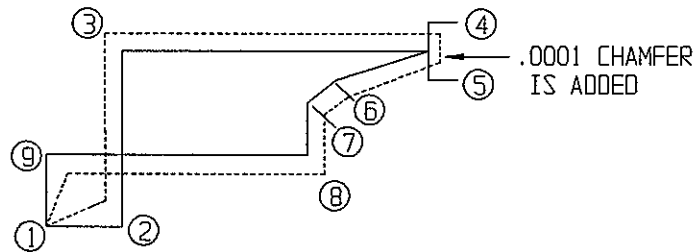

Figure 9
Figure 9 shows how a 00.0001" chamfer or round corner added at point (4) has saved an unnecessary departure.